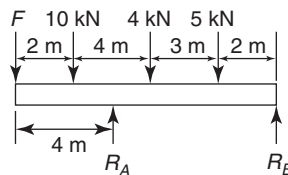

**Figure 5.20**
6. For the simply supported beam  $PQ$  shown in Figure 5.20, determine (a) the reaction at each support, (b) the maximum force which can be applied at  $Q$  without losing equilibrium.